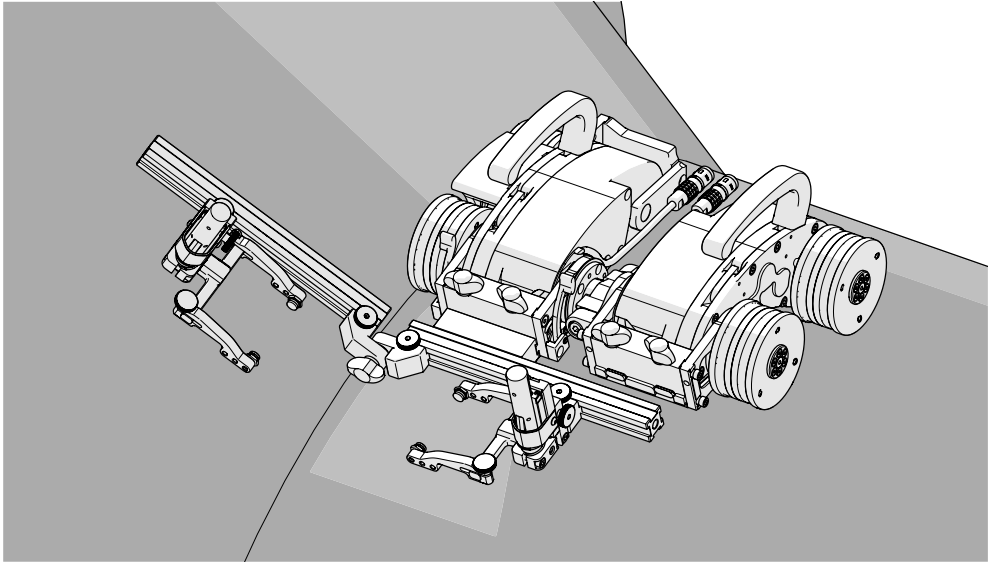

Fig. 239 - Align frame bar with flange scan surface
4. Loosen the pivot wing knob and align the frame bar parallel with the scan surface (Fig. 239).